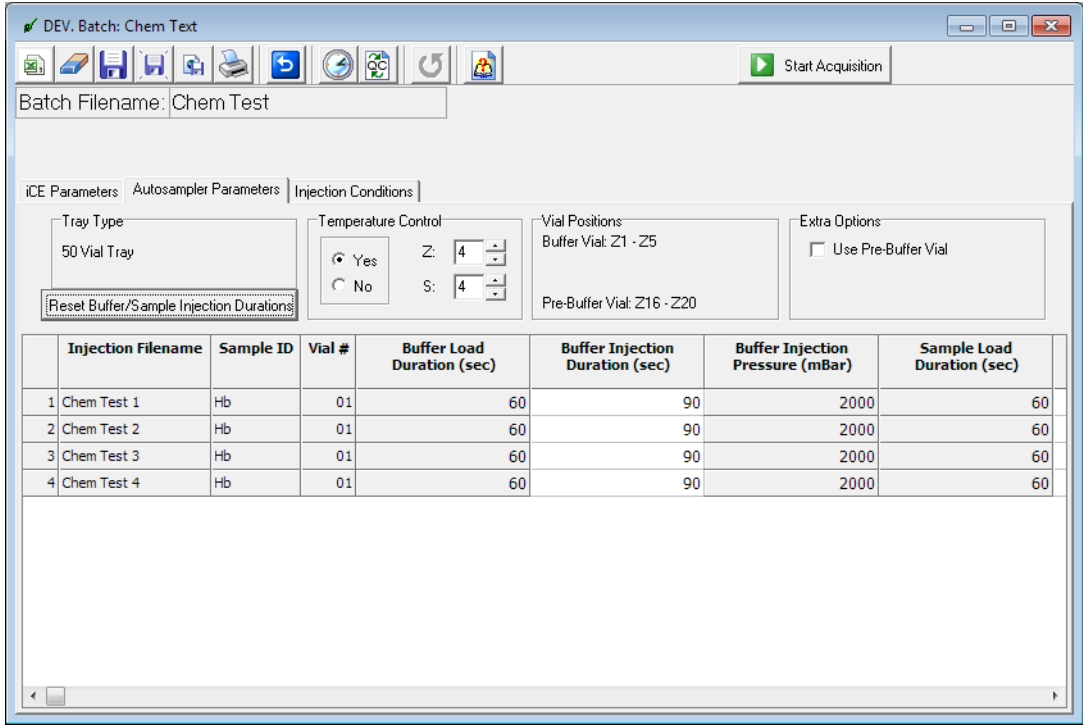

Figure 5-31: Example of a completed Autosampler parameters table using ProteinSimple default parameters.
19. When all the information has been entered, you can move on to the next tab. An example of a completed Autosampler Parameters table using the ProteinSimple default parameters is shown in Figure 5-31.